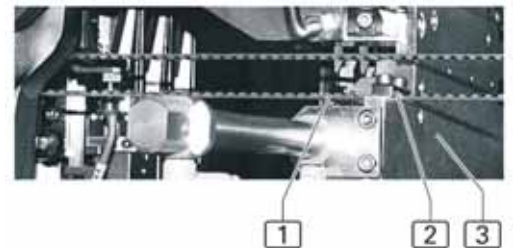

fig. 9
- fig. 9:** Remove both fastening screws [2] of the belt clamp of the motor holder [1], remove toothed belt [3] from the sliding roller (left side) and the drive roller (right side). The exchange belt is cut to the right length. Place the exchange belt on the sliding roller and drive roller and screw it to the motor holder with the belt clamp. Pre-tension the toothed belt.